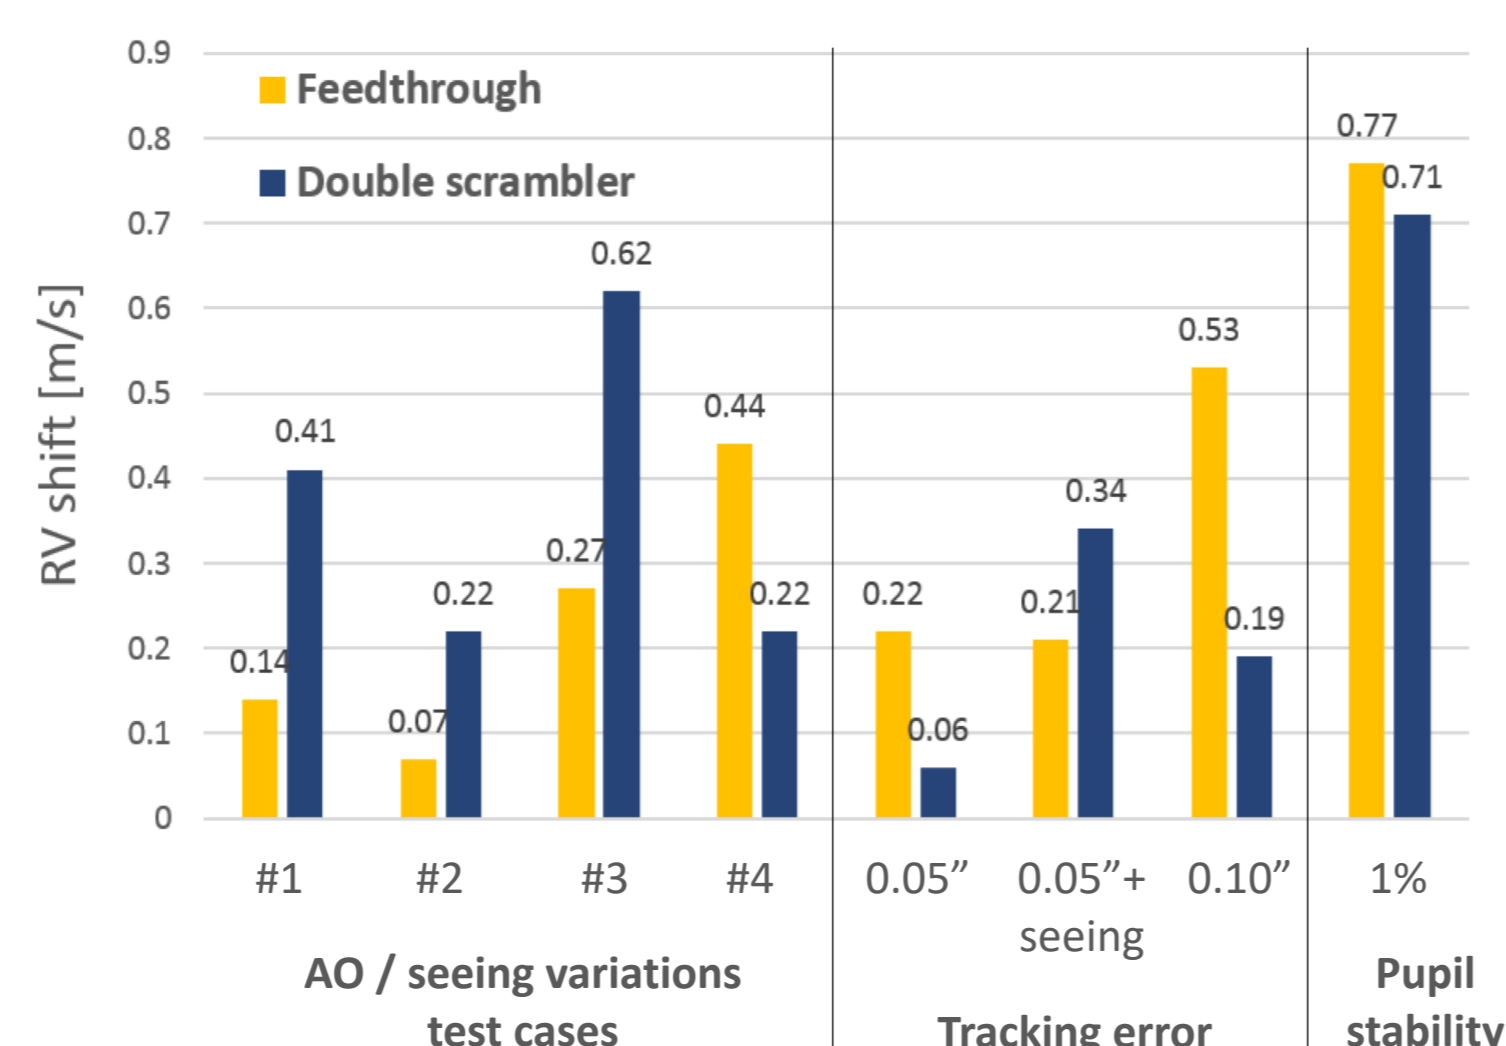

Fig. 4 - Standard feedthrough and double scrambler sensitivity to different sources of error
- Performance estimated by injecting far-field measurements into spectrograph optical design (Fig. 4)